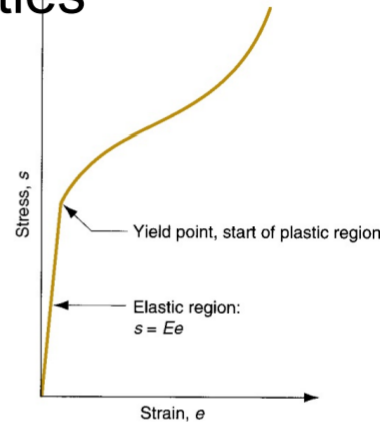

Fig. 3-9: Typical engineering stress-strain curve for a compress:
- Fig. 3-9 shows an engineering stress-strain curve. The curve has elastic and plastic regions as before, but the shape of the plastic region is different from its tensile test complement. Reasons: